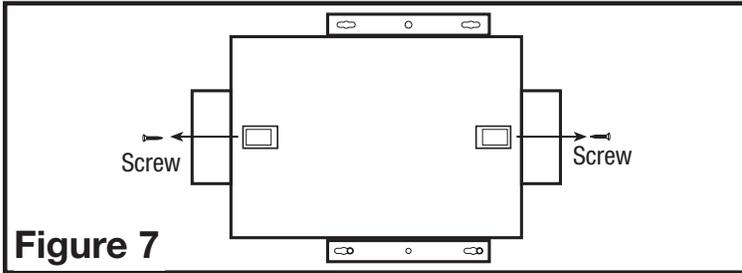

Figure 7
- Remove the screws securing the access panel cover in place and open the cover to gain access. Locate the speed control panel inside the unit (**Figure 7**).